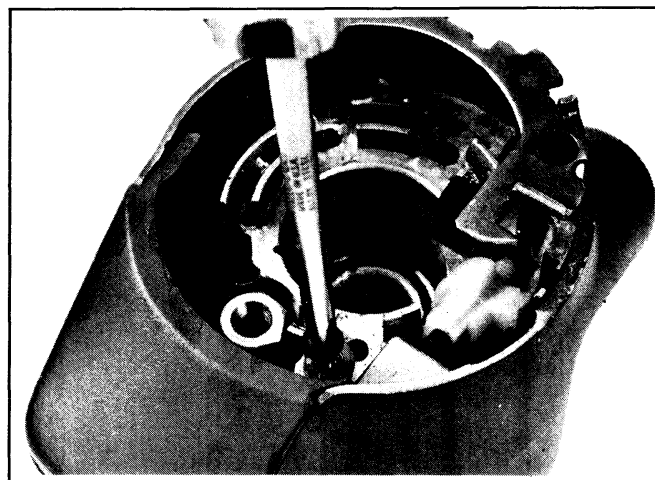

Fig. 3B-82A--Removing Cover Screw and Cover-Chevrolet
10. Remove the ignition switch actuator sector through the lock cylinder hole by pushing firmly on the block tooth of the sector with a blunt punch or screw driver (fig. 3B-84).